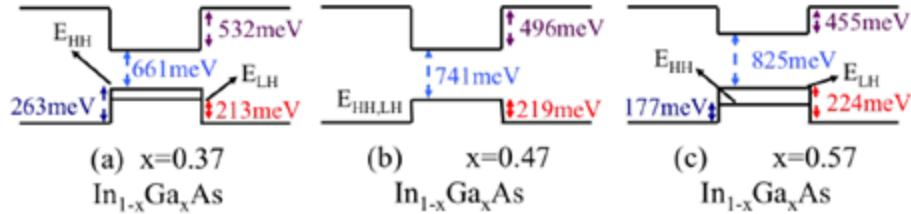

Figure 3.1: Band-Edge plots for different mole fractions of InGaAs/InAlAs quantum wells.
The energy levels are plotted in Fig. 3.1. Note that this sample is compressively strained, pushing the heavy hole band above the light hole band and shrinking the band gap.
(B), (C) These are done in an analogous way to part (a) above and the results are shown in Fig. 3.1. Note that part (b) is unstrained and the two hole band energies are degenerate at zone center. Part (c) is under tensile strain, widening the band gap and pushing the light hole band above the heavy hole band at zone center.